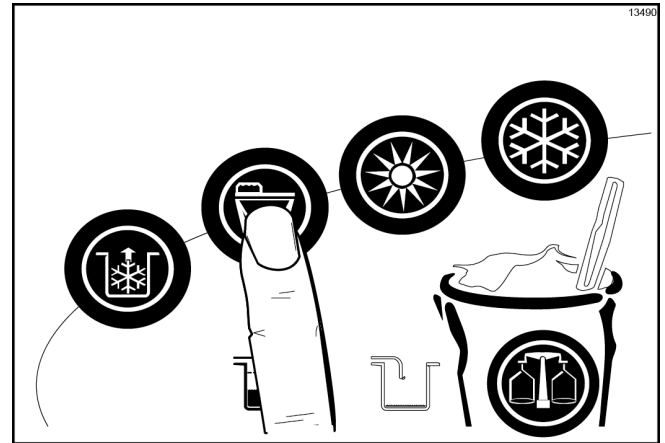

Figure-100
- With a pail beneath the door spout, press the Wash symbol . (See Figure-100.)